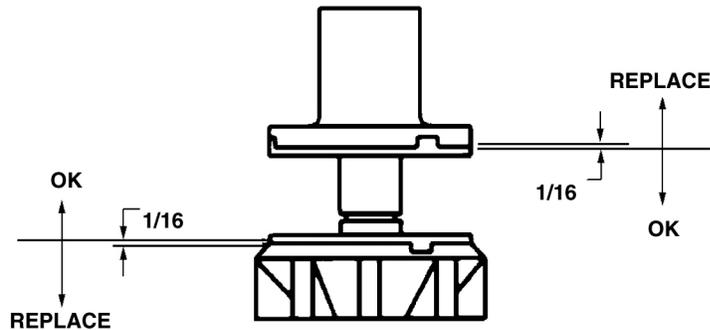

Figure 2. Auger Assembly
7. Check white upper bearings on auger assembly (see Figure 2). If bearing are less than 1/16-inch thick, replace the bearings.